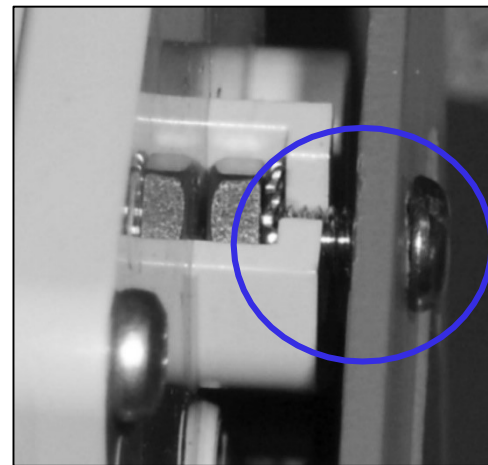

Figure 31: Mounting plate attached to the nut
- Tilt the bottom of the Endpoint away from the mounting plate, and slide the notched mounting slot under the nut as shown in Figure 31. Leave the screw loose for now.